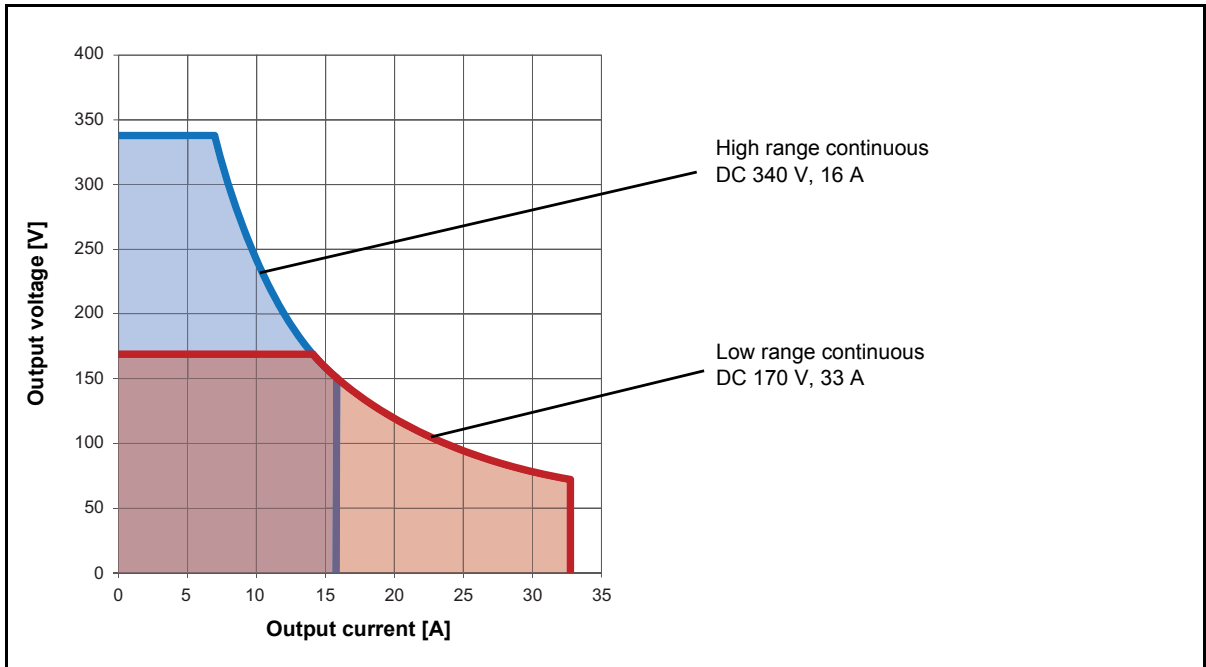

Figura 1-1: Permitted operating range 1 x DC 340 V 16 A
2. See Figura 1-1: "Permitted operating range 1 x DC 340 V 16 A" en la página 6